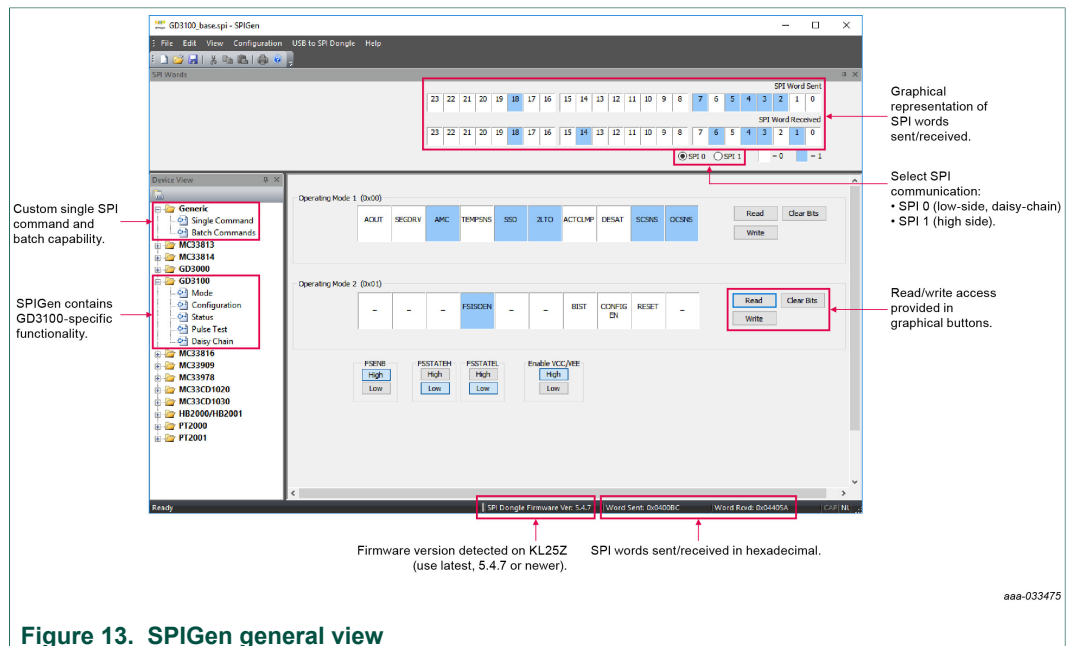

Figure 13. SPIGen general view
- a. Selecting SPI0 communicates with low-side gate drive device and SPI1 communicates with high-side gate drive device (see Figure 13).
A way to quickly check that the microcode is programmed and board is functioning properly, is to plug the KL25Z into the computer, open SPIGen, and verify the software version at the bottom is 5.4.7 software (see Figure 13).
SPI messages can be realized graphically or in hexadecimal format, and the CSB is selectable to address one or both GD3100 present on the board. See Figure 13 for SPIGen graphical user interface for GD3100 internal register read and write access.